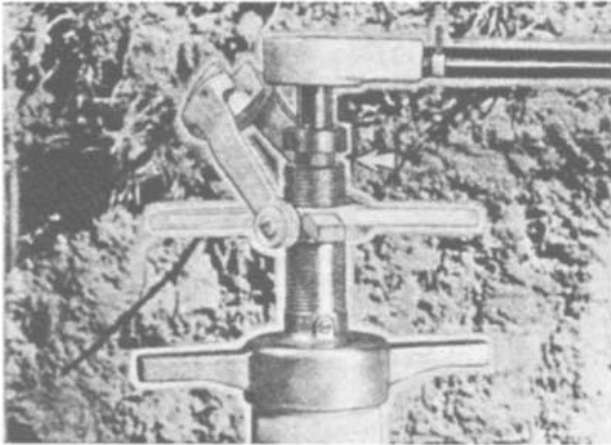

FIGURE 9
5. Continue tapping operation until tapping line on boring bar is flush with the top of the feed sleeve part of the cap. FIGURE 9. When tapping asbestos-cement pipe, it may be advisable to tap about 1/8" beyond the tapping line to provide more engagement of corporation stop threads when using one piece Cem-Res® tools.
6. Continue tapping until tapping line on boring bar is flush with the top of the feed sleeve part of the cap. See FIGURE 9. When tapping asbestos-cement with one piece Cem-Res® combined drills and taps, it is advisable to exceed the tapping line enough to allow corporation stops to be inserted with only one to three threads exposed. The exact amount may be determined by making a "shop-tap" ahead of time. Use 50 to 80 foot pounds of torque to tighten stop into main after removal of machine.